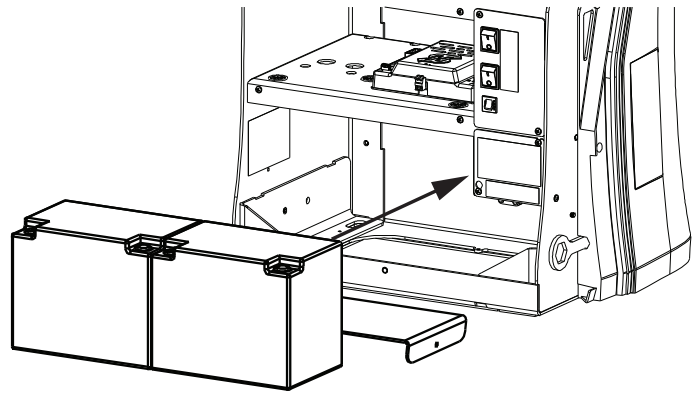

Figure 34. Extended Battery Kit
6. Install the extended battery tray at the back of the conduit cut out. (Figure 34)